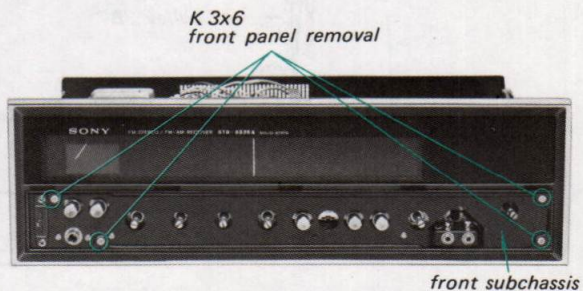

Fig. 2-5. Front panel removal
5. Remove the four screws securing the front panel to the front subchassis as shown in Fig. 2-5. This frees the front panel.